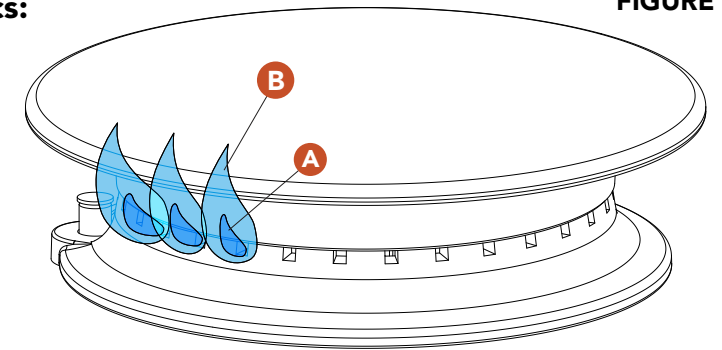

FIGURE 22
- On HIGH, the inner cone (see Figure 22:A) should be approximately 1/2 inch long.
- On HIGH, the outer cone (see Figure 22:B) should be approximately 1 1/4 inches high.